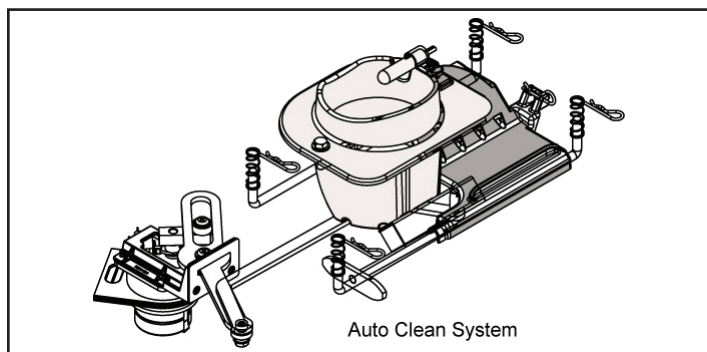

Figure 24.1
- b. Open the firebox door. Inspect the auto-clean springs: **Fig. 24.1**